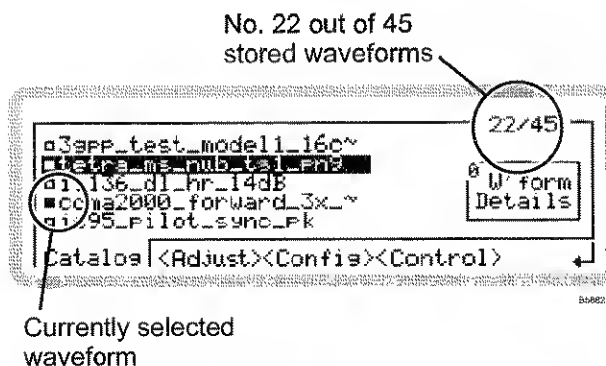
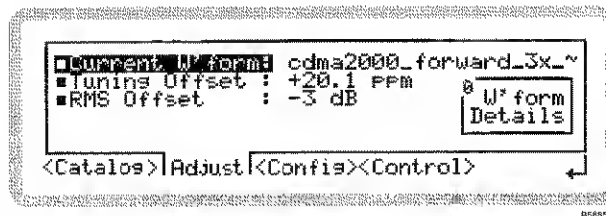
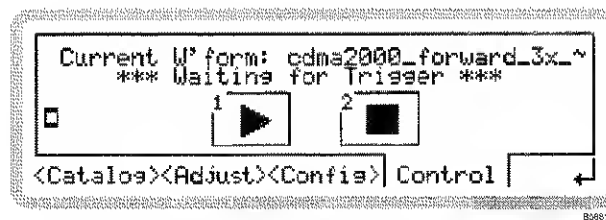

Fig. 3-29 ARB catalog
Fig. 3-30 ARB adjust
Fig. 3-32 ARB control
- 2 Press **SIG GEN** to show the main screen, and touch the **IQ** soft box to select the function. Touch **W'form** and press **↵** to view the ARB catalog menu (Fig. 3-29).
From the ARB catalog menu of Fig. 3-29, touch <Adjust> or press **<TAB>** to display the ARB adjust screen (Fig. 3-30).
From the ARB catalog menu of Fig. 3-29, touch <Config> or press **<TAB>** to display the ARB configuration screen (Fig. 3-31).
From the ARB catalog menu of Fig. 3-29, touch <Control> or press  to display the control screen (Fig. 3-32).